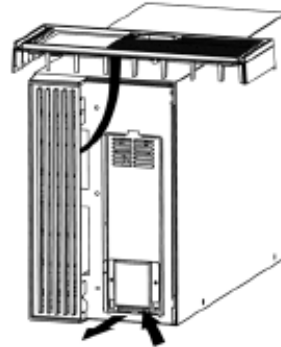

FIG. 2
3. Press the spring-loaded latch on the battery retaining bracket at the bottom, pull it outward and then set it aside (FIG. 2)